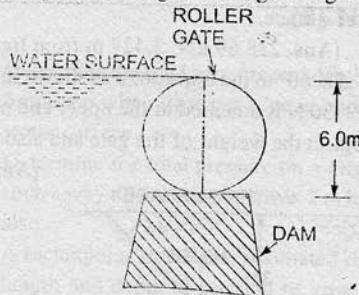

Fig. 3.59
20. A roller gate is shown in Fig. 3.59. It is cylindrical form of 6.0 m diameter. It is placed on the dam. Find the magnitude and direction of the resultant force due to water acting on the gate when the water is just going to spill. The length of the gate is given 10 m. [Ans. 2.245 MN, $\theta = 38^\circ 8'$]